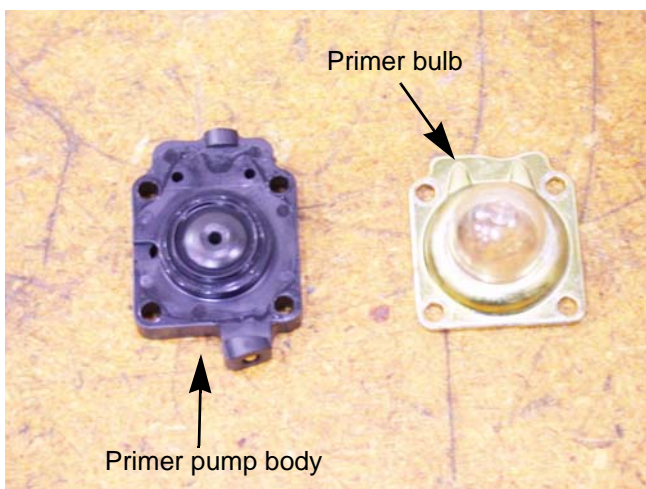

Figure 5.27
6. Inspect the primer pump body for dirt and/or varnish. See Figure 5.27.